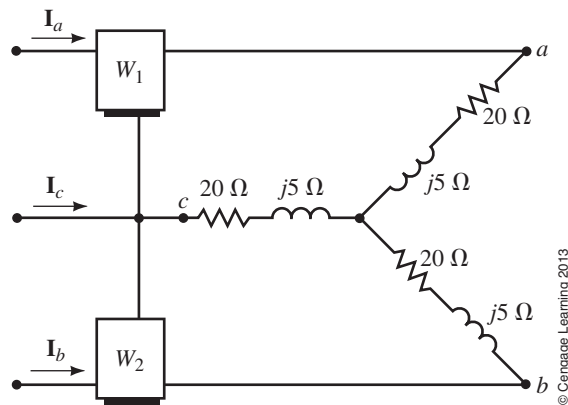

FIGURE 24–56
51. Consider the circuit of Figure 24–56.
52. For the balanced load of Figure 24–57, $V_{ab} = 208 \text{ V} \angle 0^\circ$.